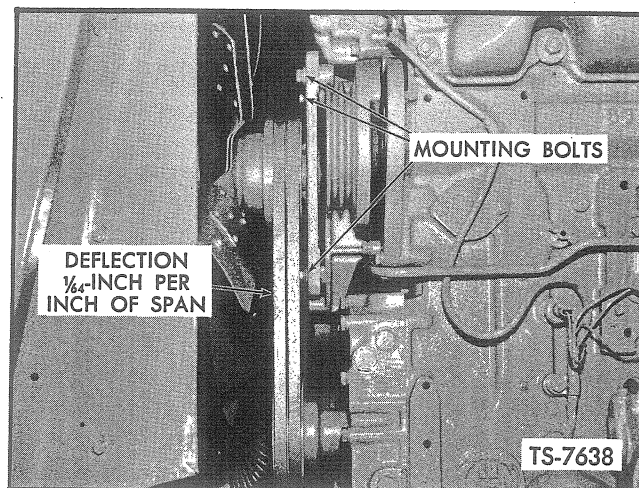

Fig. 7. Check Belt Tension — G.M. Only
2. Refer to Figure 7 for G.M. Diesel; loosen three mounting bolts and adjust belt tension to obtain $\frac{1}{64}$ -inch deflection per inch of belt span. Tighten mounting bolts.